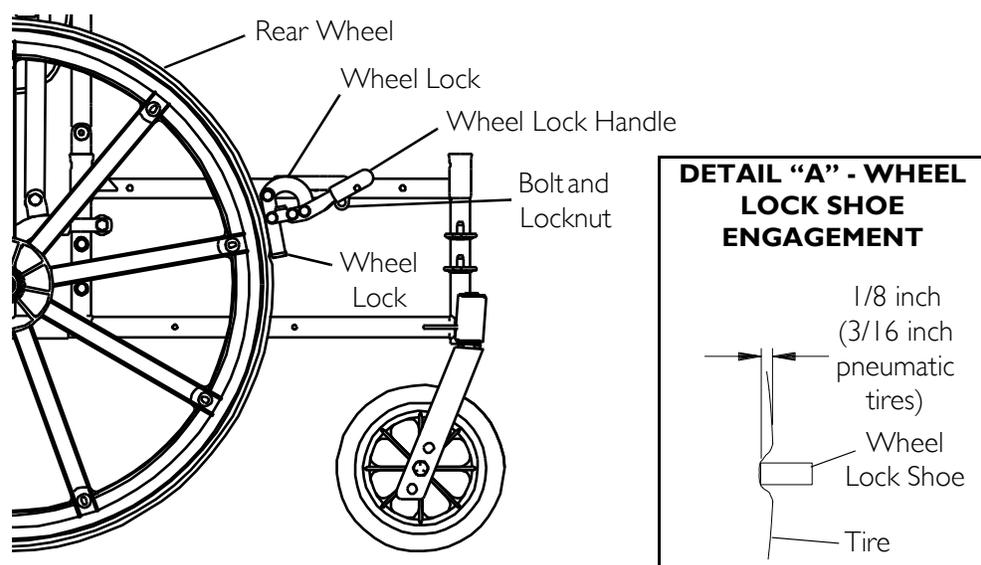

FIGURE 11.8 Using/adjusting the Clamp-On Wheel Locks - Adjusting the Clamp-On Wheel Locks
NOTE: For this procedure, refer to FIGURE 11.8.
6. Measure the distance the wheel lock is embedded into the tire as shown in DETAIL "A" of FIGURE 11.8.